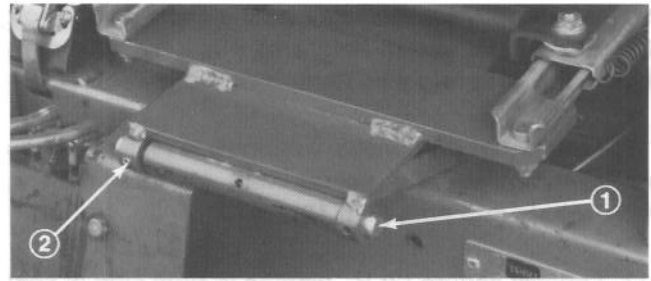

Figure 10
12. Mount seat and seat support to seat pivot bracket with pivot shaft and roll pin (Fig. 10).
15. Hold seat up with seat support rod (Fig. 10).